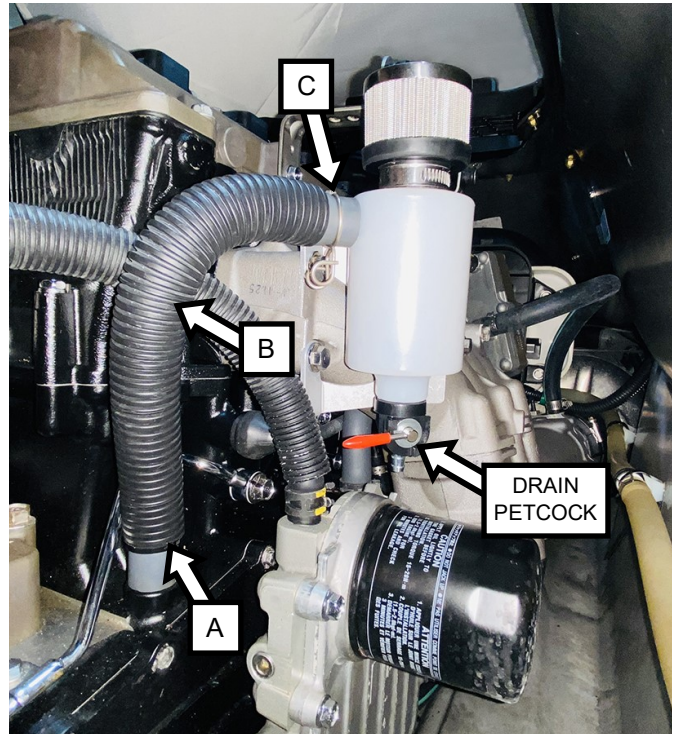

Figure 9
Install longer end of engine breather hose (8") onto open fitting on crankcase below Catch Can. Secure with supplied zip tie (A). Slide protective sheathing over engine breather hose (B). Attach open end of engine breather hose to open fitting on Catch Can and secure with previously removed spring clamp (C). (Figure 9)